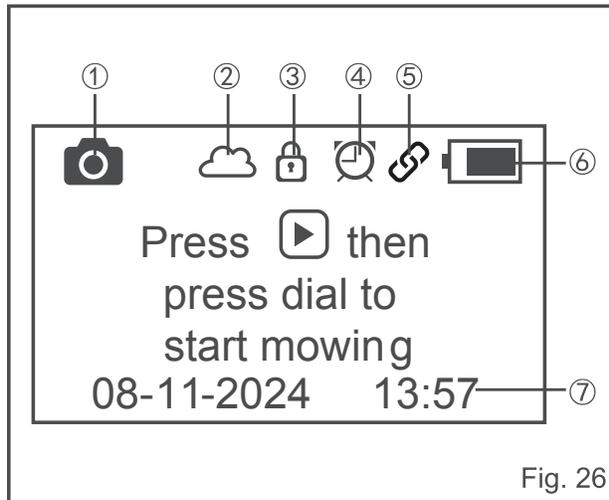

Fig. 26
- Place the mower on the base station. Make sure the mower's charging strips are fully connected with the contact strip of the base station (Fig. 24). The mower will automatically start initialization (Fig. 25). It will take about 15 seconds to complete this process. The mower will beep twice, and the LCD panel will display the Main Screen (Fig. 26).
## Main Screen (See Fig. 26)